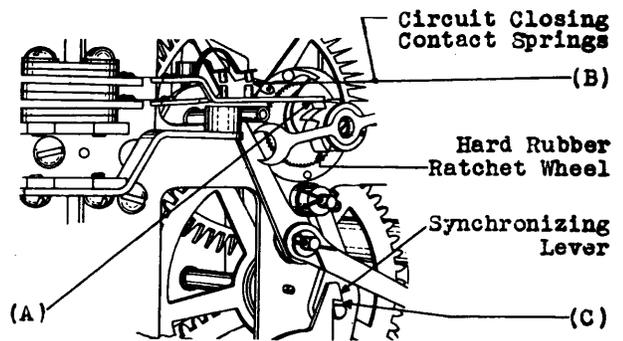

Fig. 3 - Circuit Closing Contacts and Ratchet Wheel
*2.06 Clearance Between Contact Springs and Ratchet Wheel Teeth - Fig. 3 (A): When the synchronizing mechanism operates, there shall be a perceptible clearance between the tips of the circuit closing contact springs and the teeth of the hard rubber ratchet wheel as the seconds hand is restored to the 60 seconds position. Gauge by eye.
*2.07 Contact Separation - Fig. 3 (B): With the contact springs in the normal position there shall be a separation between each pair of contacts of Min. .012" Use the No. 74D gauge.
*2.23 Synchronizing Lever Operation - Fig. 3 (C)